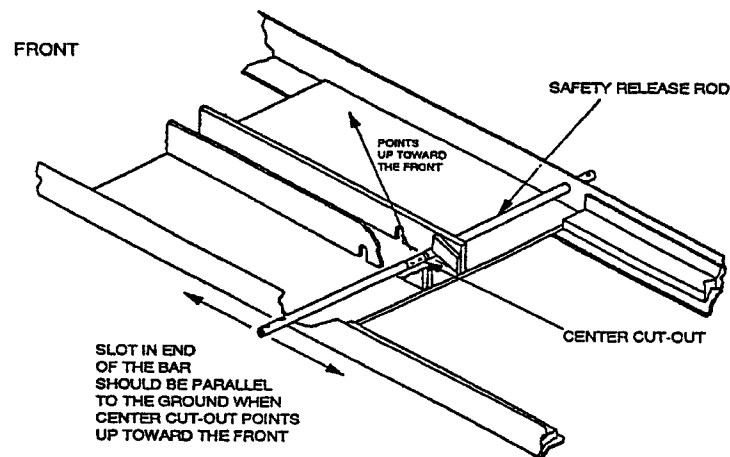

Figure 4. Safety release rod location
1. Locate the two (2) mechanical safety release rods and one (1) mechanical safety release connecting rod.
5. Slot in end of the bar should be parallel to the ground when center cut-out points up towards the front. Refer to **Figure 4**.